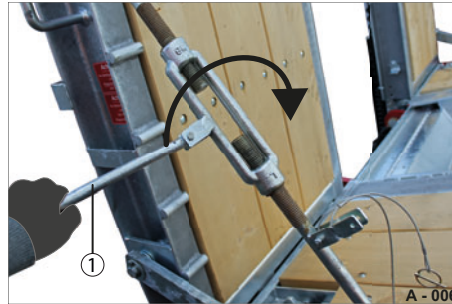

Fig. 5 Untwist turnbuckle
- Rotate the turnbuckle with the tensioning lever (Fig. 5/1) until the rod lifts up from the lower pin on the chassis.